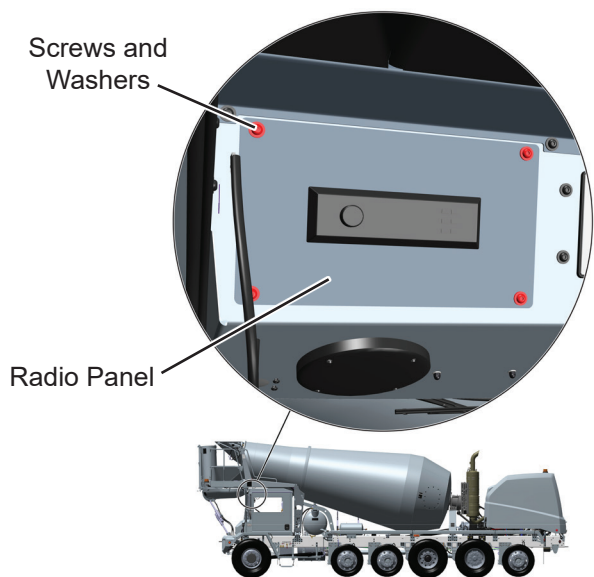

Figure 25
- 55. Reinstall radio panel to overhead console with four screws and washers removed in Step 7. See Figure 25. Final tighten screws to 75 in lbs.